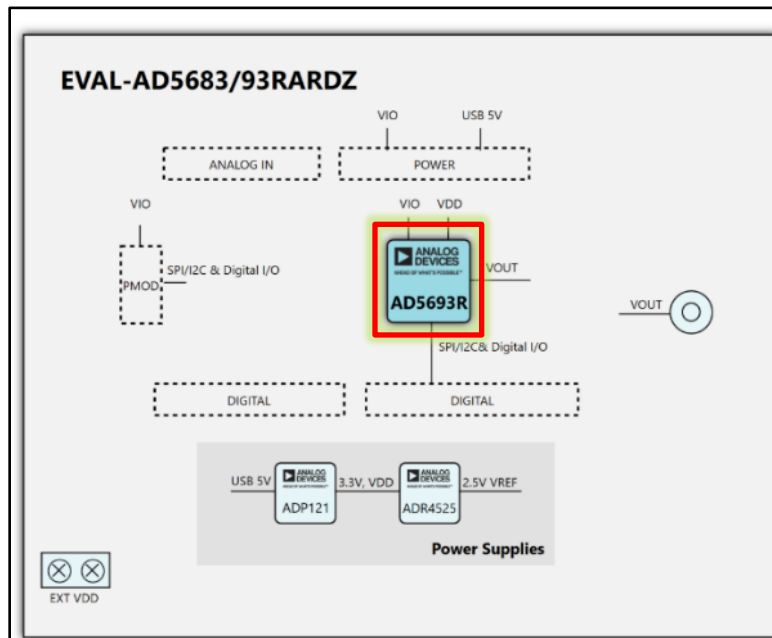

Figure 17
- Figure 17 will show up, double-click the AD5693R chip image.